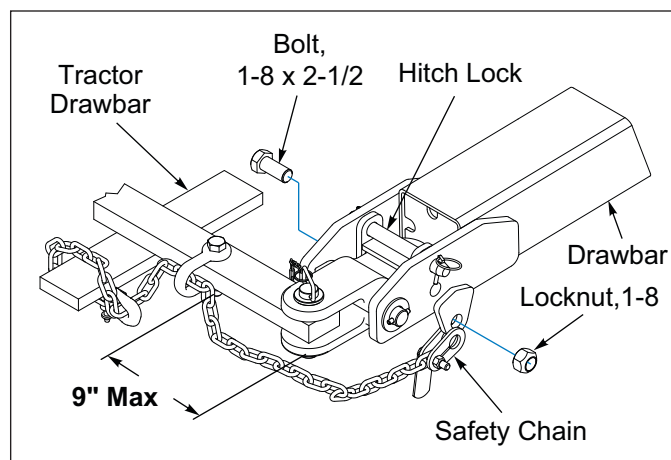

Figure 1-2: Drawbar without Hammer Strap
3. Attach the chain to the tractor drawbar support or specified anchor location. Never attach the chain to an intermediate support. Allow only enough slack in the chain to permit turning. The distance from hitch pin to attachment point or intermediate support point should not exceed 9 inches. **See Figures 1-2 and 1-3.** If the distance from the drawbar pin to either the front or rear chain attachment point exceeds 9 inches, intermediate chain support is required.